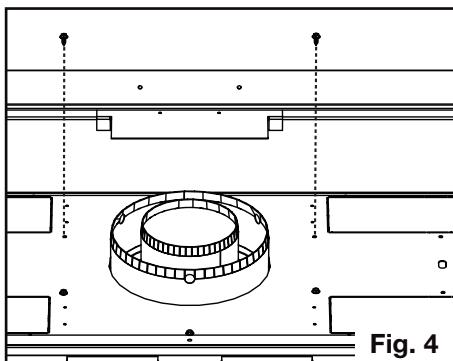

Fig. 4
4. Unscrew the fasteners as shown (**Figure 4**). DO NOT DISCARD FASTENERS